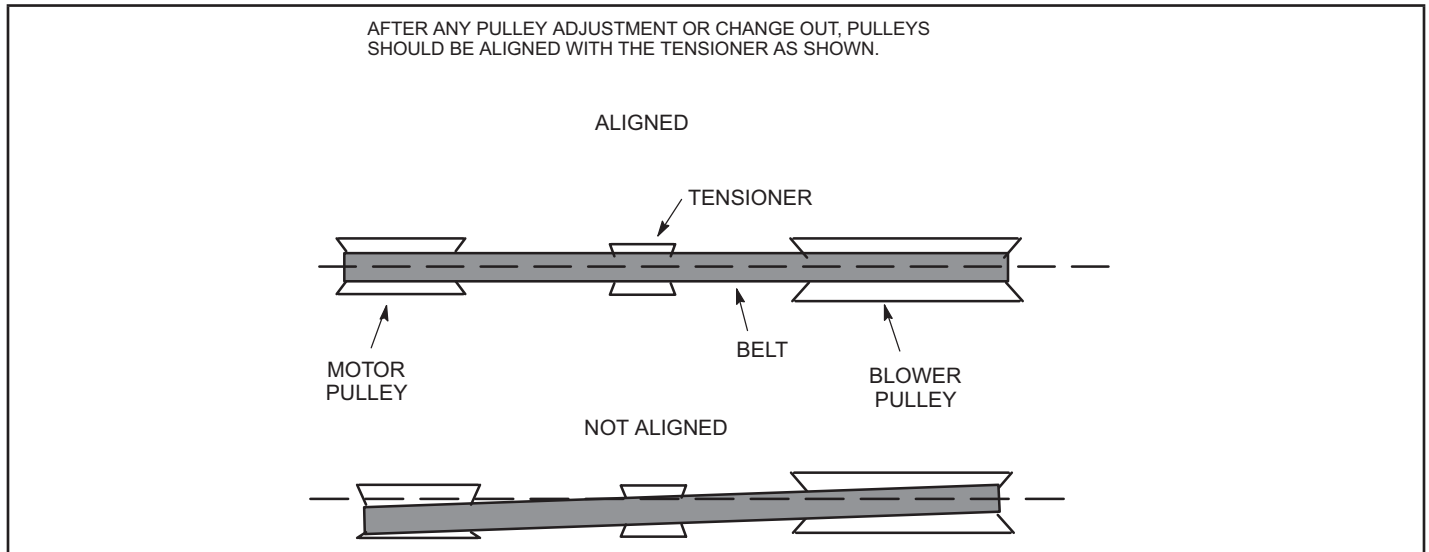

FIGURE 17. Typical Pulley Alignment
To save energy during ventilation, the blower speed can be set to low. This is accomplished by changing the ventilation speed switch on the VFD control board to “LO”. See figure 17.
To maintain required minimum ventilation air volumes when the unit is in the occupied mode, two minimum damper positions must be set. A high and a low speed potentiometer are provided on the VFD control board to adjust minimum damper position. See figure 17.
- 5 - Check the power LED on the board. See figure 17.
- 8 - When LVC2 24VAC thermostat blower (G) input and 24VDC power are present, check the LVC2 low and high speed outputs. The LVC2 uses inverse logic to enable the blower; 1VDC will be read at the enabled blower speed terminal. See table 3.